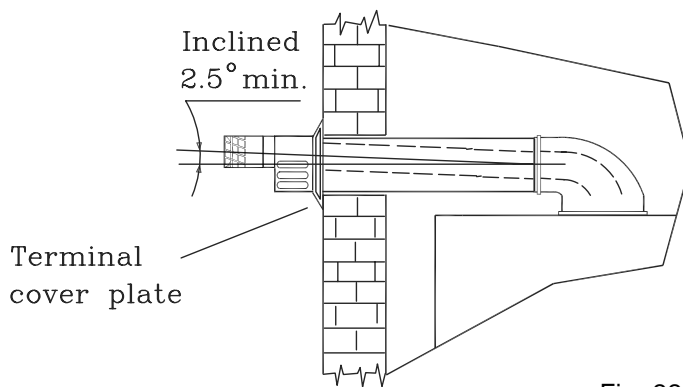

Fig. 22
5.5.7 Fit terminal cover plate (fig. 22).